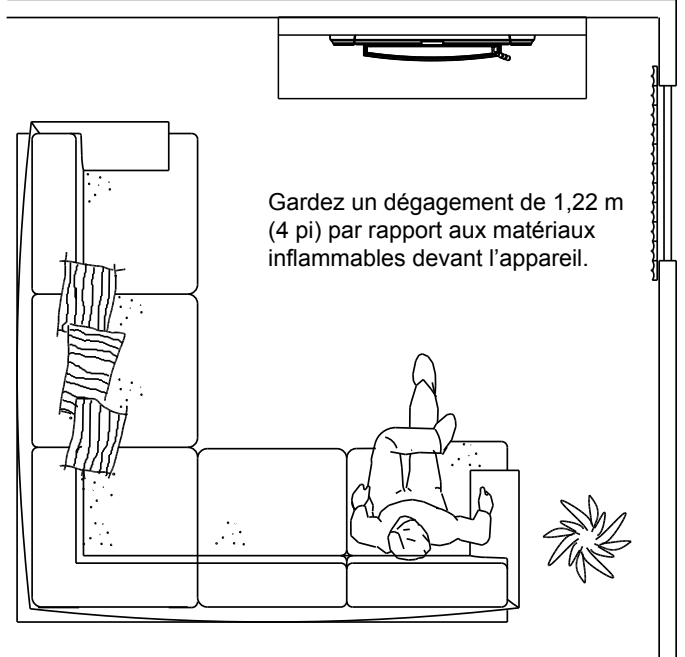

Figure 13.1
- Do NOT place combustible objects within 1.2m of the front of appliance (See **Figure 13.1**).